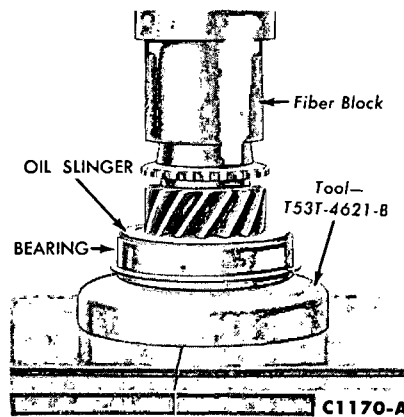

FIG. 9—Installing Input Shaft Bearing
2. Press the input shaft bearing and oil slinger onto the input shaft with the tool shown in Fig. 9, and install the snap ring on the shaft.